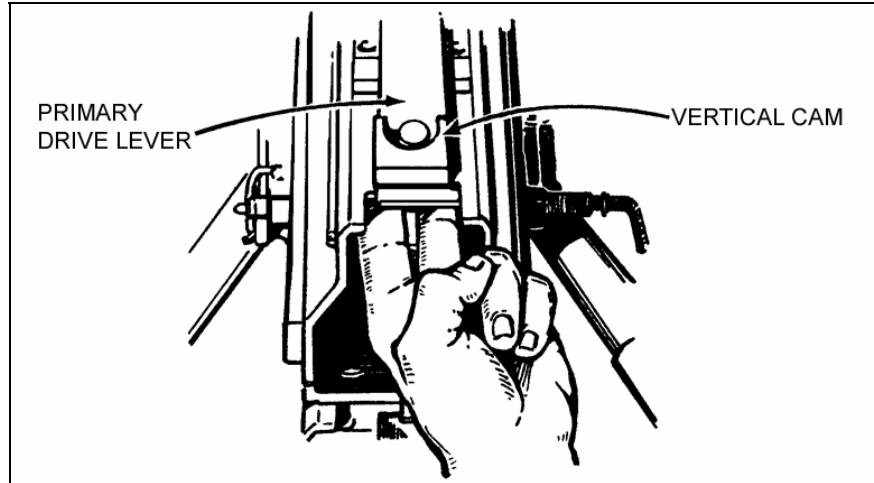

Figure 2-20. Primary drive lever and vertical cam.
- (9) Take off the primary drive lever and vertical cam.
- (e) Pull the primary drive lever from the front of the weapon and the vertical cam from the back (Figure 2-20).